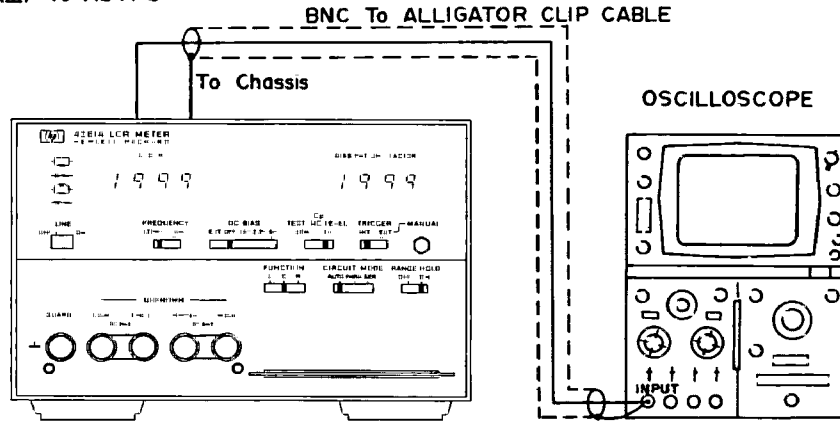

Figure 5-4. A5 Board Offset Adjustment.
- (I) **OFFSET-1 Adjustment**
- a. Connect BNC to alligator clip cable between oscilloscope and 4261A A5TP1 and 4261A chassis (see Figure 5-4).
- a. Connect BNC to alligator clip cable between oscilloscope and 4261A A5TP2 and 4261A chassis (see Figure 5-4).
- a. Connect BNC to alligator clip cable between oscilloscope and 4261A A5TP3 and 4261A chassis (see Figure 5-4).